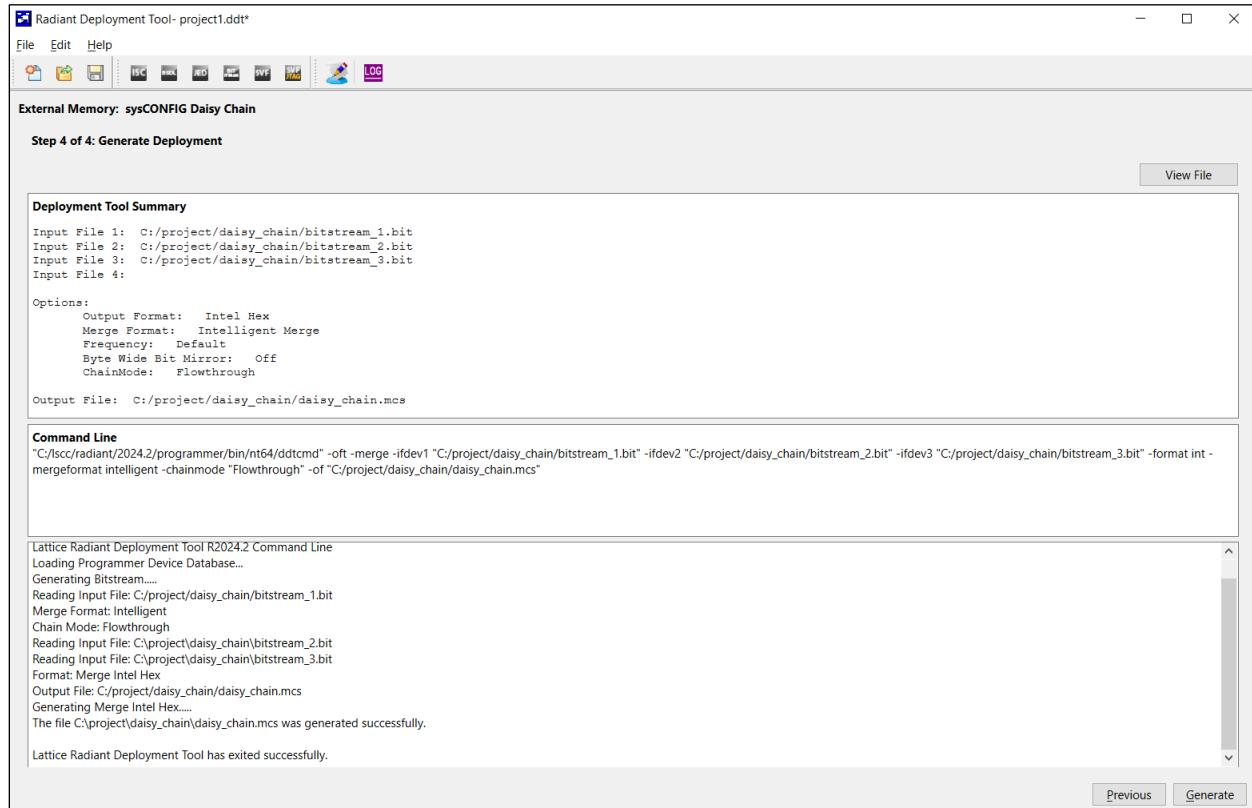

Figure 9.5. Generate Deployment Window
Step 4 of 4: Generate Deployment window (Figure 9.5)